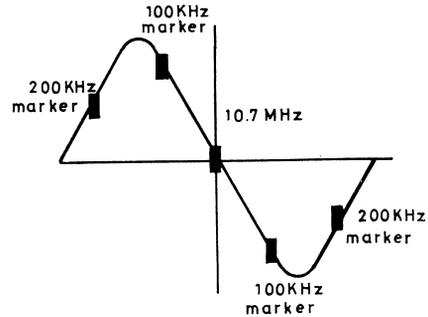

Fig. 15
4. Set the sweep marker output power at a suitable level and adjust so that the picture tube wave becomes like that in Fig. 15; adjust with the detector transformer T104.
- \* 100K Hz markers and 200K Hz markers should be in symmetry, as shown Fig. 15.
- \* The 100K Hz markers in Fig. 15 should be in line, with the 10.7M Hz marker in the center.